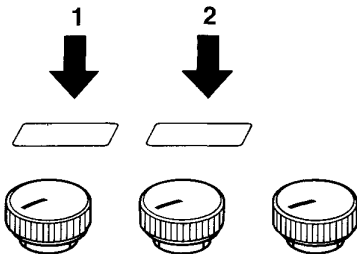

Fig. 2. Volume control on top panel
4. Attach the frequency marker supplied with the module to the corresponding volume control. (See Fig. 2.)